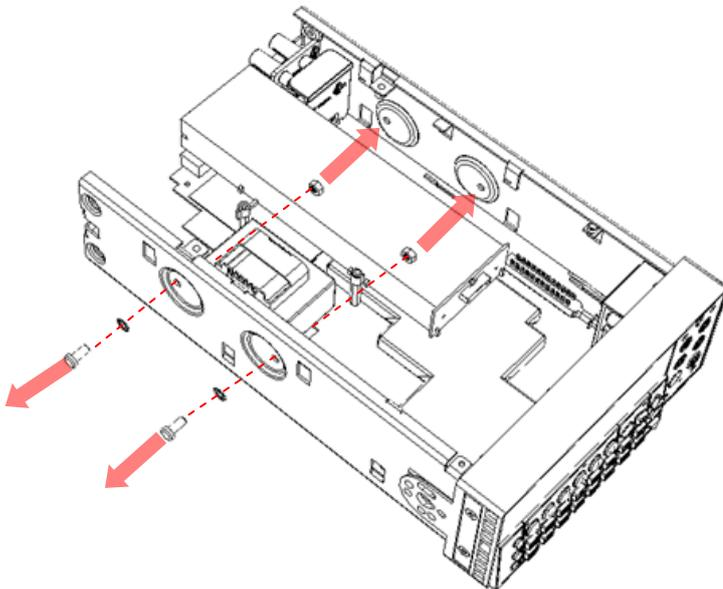

Figure 4-12
- Loosen the two fastening screws as shown in **Figure 4-12**.